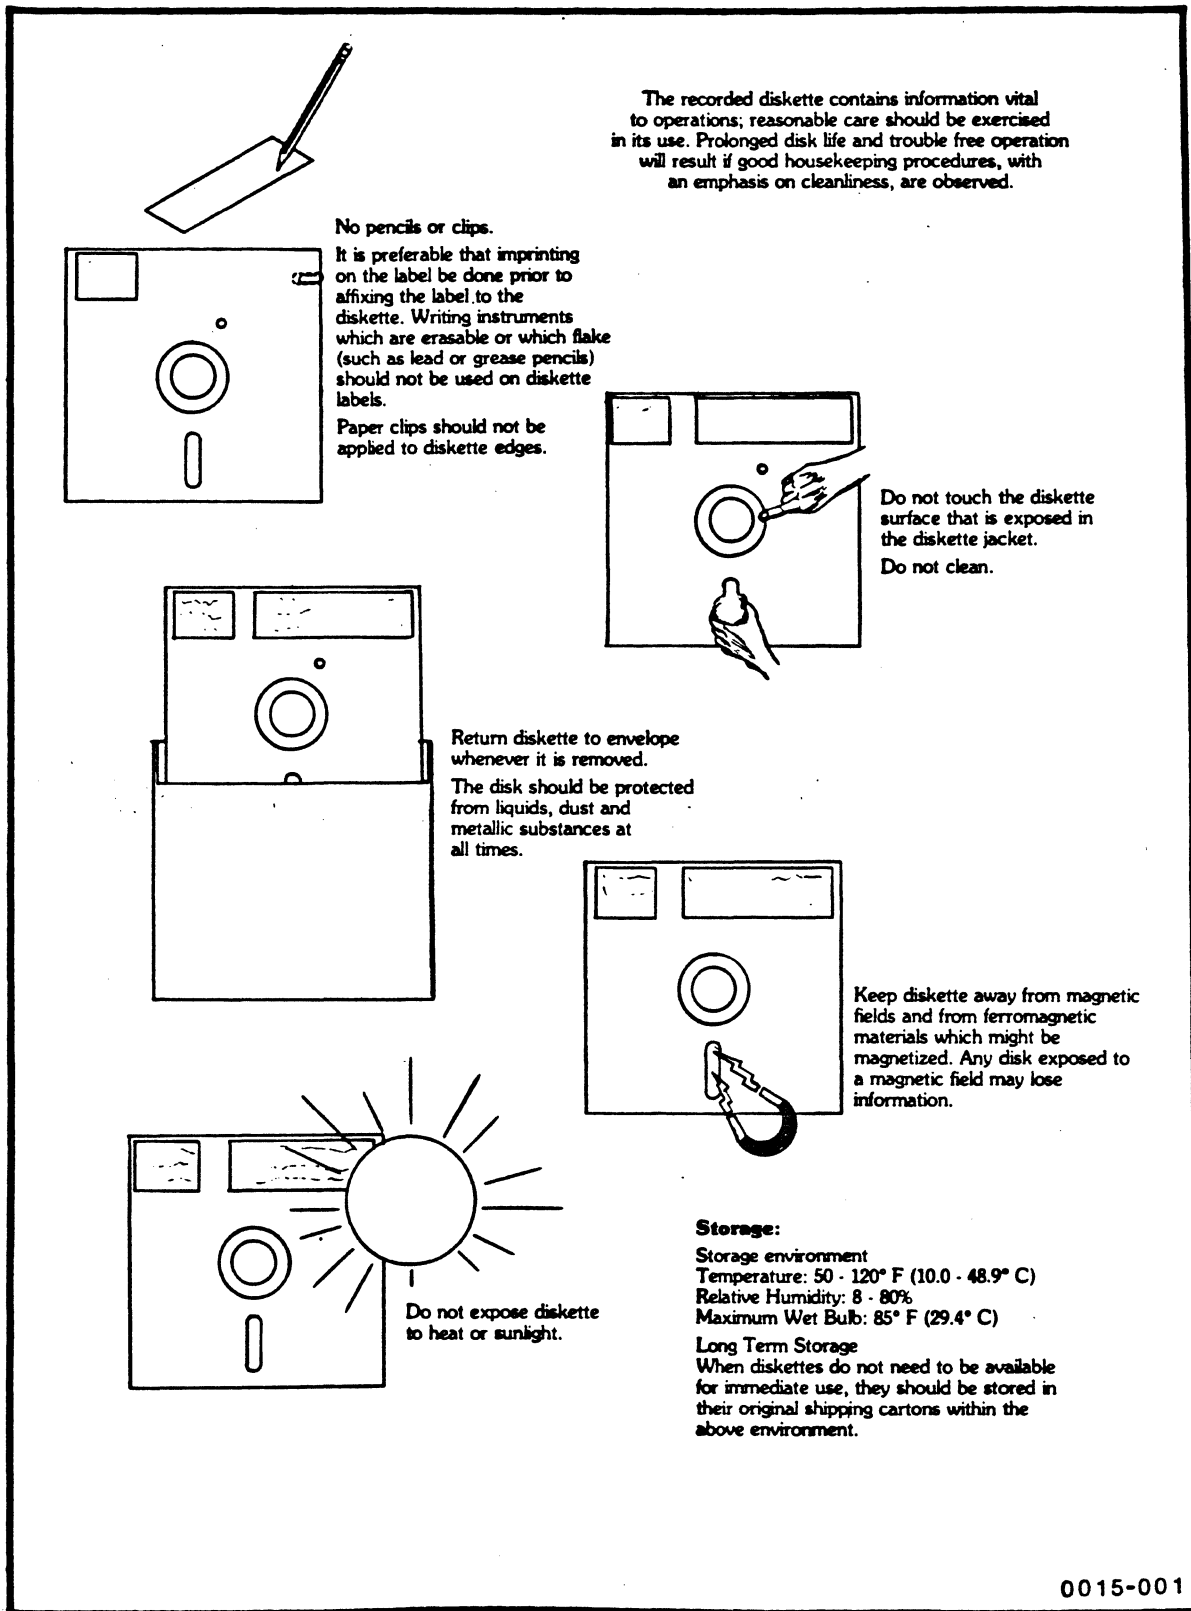

Figure 2.1 - Floppy Disk Handling
- 3) Be sure that the blank disks included with the Software Kit have write enable tabs on them. Write enable tabs are small silver squares. The tab allows information to be stored (written) on the disk. Without the tab, no information can be written on the disk. The write enable tab should appear in the upper left corner of the disk when the disk is inserted into the drive. If no tab is on the disk, there should be some included with the Software Kit. If not, call Terak Customer Service. See Figure 2.1 on page 2-2 for identification and location of write enable tabs. Since you want to maintain the master disks exactly as they are, do not put write enable tabs on the master disks. There is one